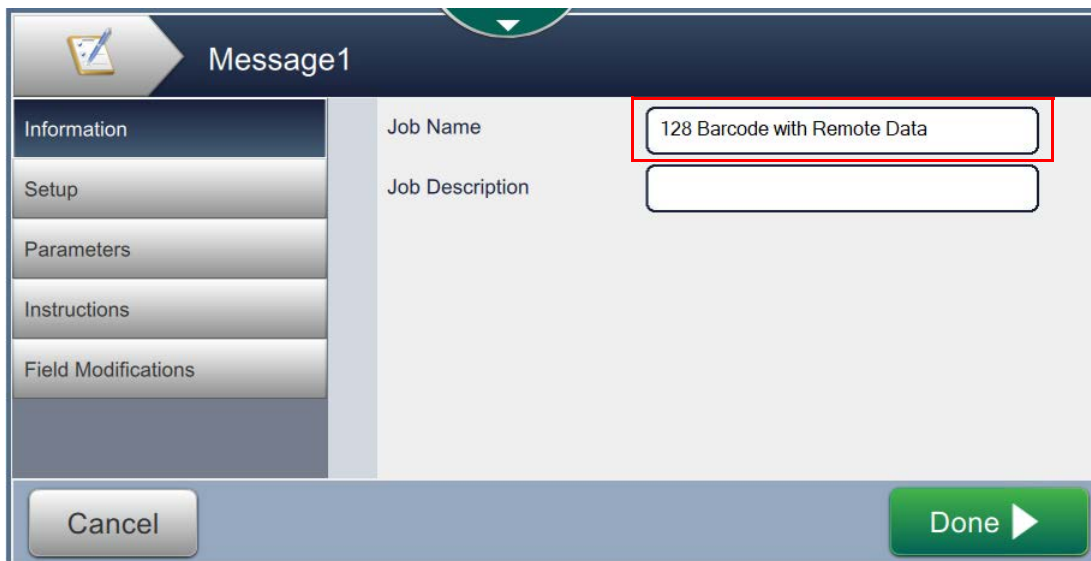

Figure 3-26: Jobs Settings Screen
3. Touch the *Job Name* field to enter the job name for the new job as shown in Figure 3-26. Enter the required Job Name using utility keypad and touch the *Accept* button. For example, 128 Barcode with Remote Data Insert. Touch the *Done* button on the Jobs Settings screen to save the changes.